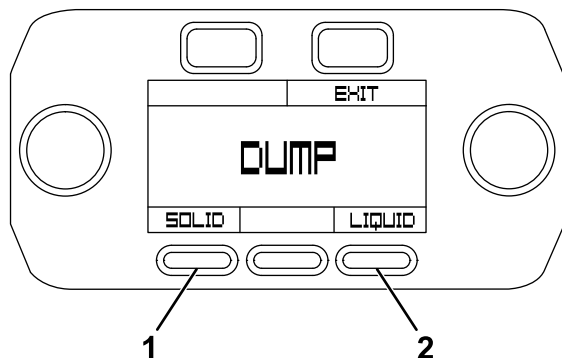

Figure 52
- On the dump screen, select which material you want the dump switch to dump (Figure 52). Press the Solid button to dump only the material in the spreader hopper. Press the Liquid button to dump only the solution in the tank. You can select and dump both materials at the same time.